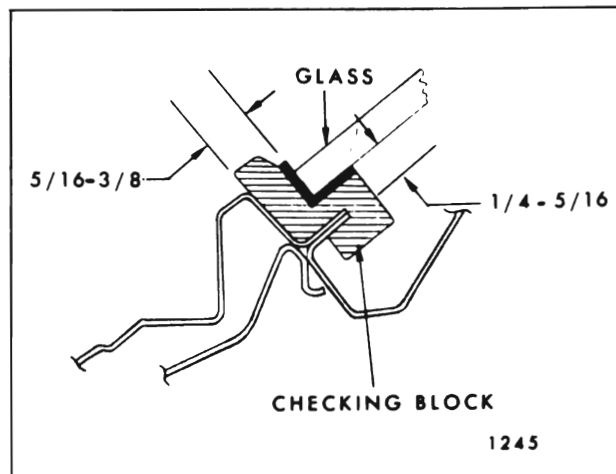

Fig. 4-12—Correct Position Of Checking Blocks
5. With windshield glass supported and centered in body opening by checking blocks, check relationship of glass to body opening around entire perimeter of glass. Figure 4-12 shows a typical section taken through the glass channel and body opening. Check glass to body relationships as follows: